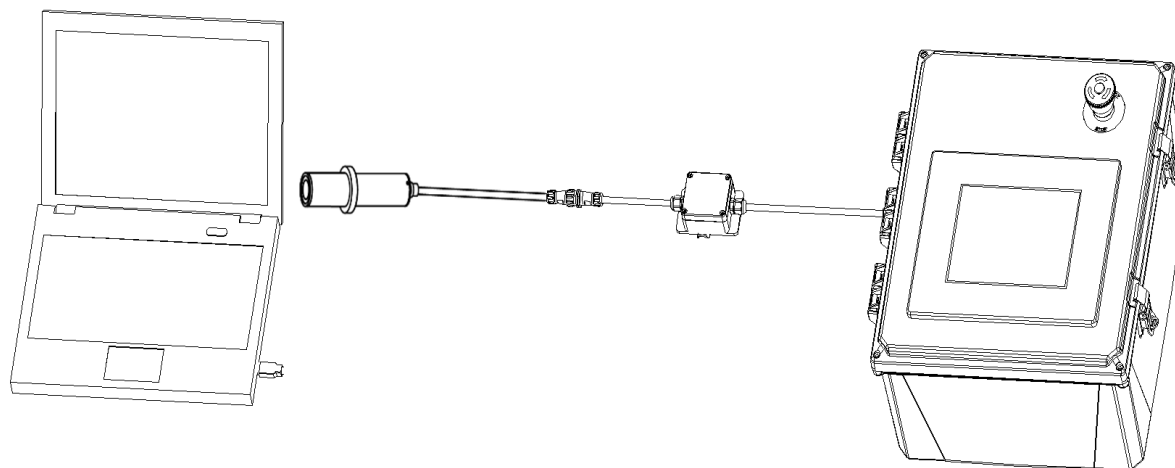

Figure 20 Connect the LT-73X to a computer via Pyxis MA-CR and MA-NEB adapter
3. Select **Connect via USB-Bluetooth** (Figure 20).